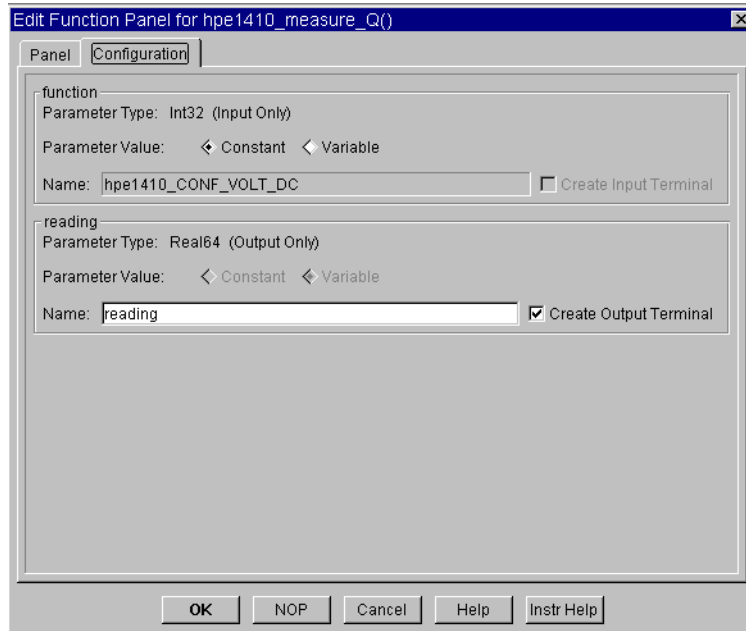

**Figure 7-4. Parameter Tab of Edit Function Panel Dialog Box**
**The Configuration Tab.** The Configuration tab, shown in Figure 7-4, allows you to specify the variables to pass to the function. This allows you to set the parameter values programmatically.
Parameter values are shown in groups. The name of each group is the label name of the parameter as specified in the *VXIplug&play* function panel. In Figure 7-4, *function* and *reading* are labels. Each group may contain the following information.